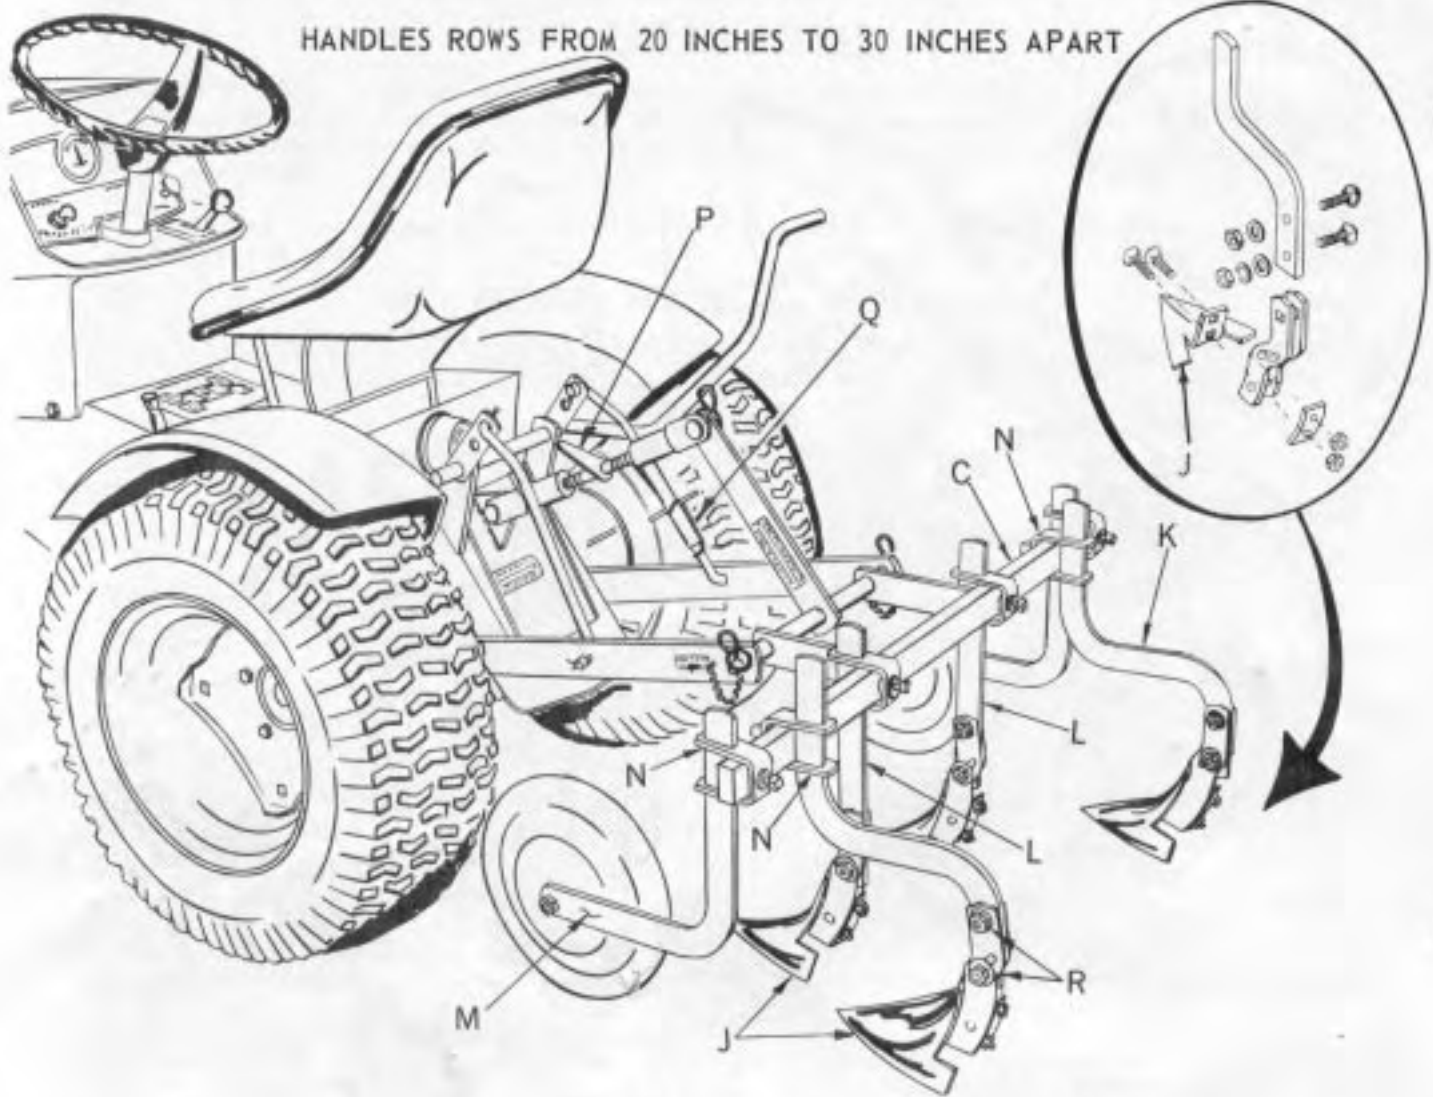
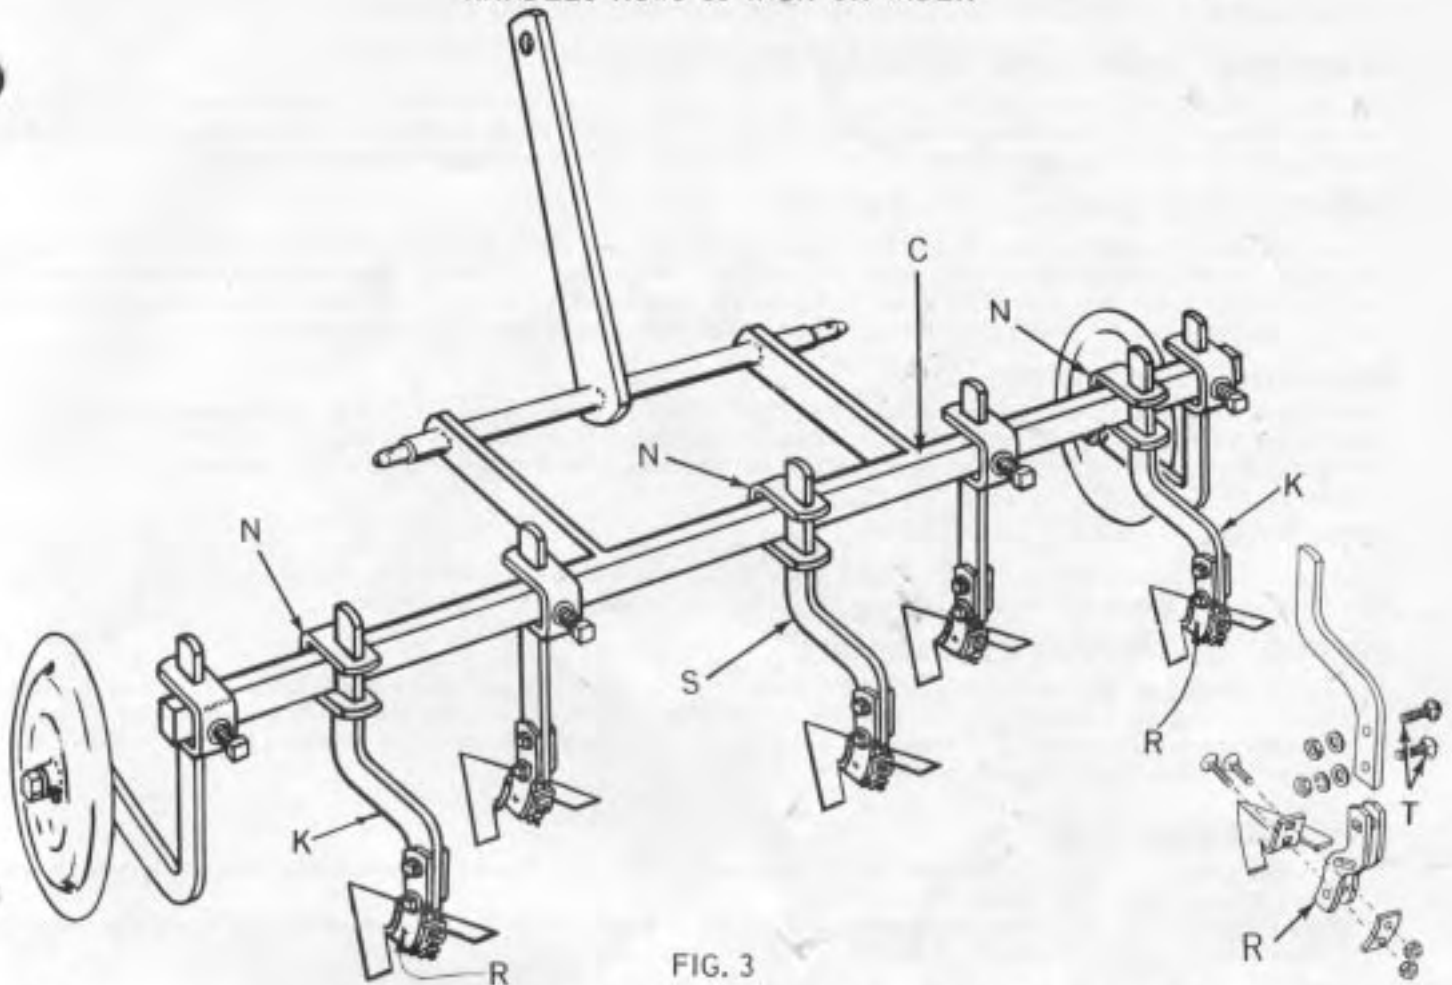

FIG. 2
FIG. 3
1. Slip L.H. hitch bar and bushing (A), over L.H. pin (B), of Cultivator frame (C), as shown. Secure with retainer spring (D).
2. Slip R.H. hitch bar and bushing (E), over R.H. pin (F), of Cultivator frame (C). Secure with retainer spring (D).
3. Assemble clevis (G), to upper hitch bar (H). Secure with clevis pin and retainer spring (D).
6. It is recommended that two settings be used to cultivate your land after planting. Straddle Row Cultivating (Fig. 2), will clean out the weeds next to your plants. Between Row Cultivating (Fig. 3), will clean out the weeds in the center of the rows. It is possible that you will want to Cultivate twice with the Straddle Row setting before changing your Cultivator to the Between Row setting.
1. Assemble sweeps or shovels (J), to shank assemblies (K and L), as shown in inset above. Use bolts, washer plates and hex nuts shipped in plastic bag. Tighten nuts securely.
2. Lift three point hitch to transport (raised position). Assemble L.H. gauge wheel and shank assembly (M), to L.H. end of Cultivator frame (C), with shank clamp (N), and set screw. NOTE: Generally gauge wheel and shank assembly will be positioned approximately 1 inch in from end of frame. Adjust so that shank will extend approximately  $1\frac{1}{2}$  to 2 inches above shank clamp. Shank clamp and set screw found in plastic bag. Tighten set screw securely.
3. Assemble R.H. gauge wheel and shank assembly (O), to R.H. end of Cultivator in same manner as L.H. gauge wheel and shank assembly.
4. Place a 1 inch block under each gauge wheel and lower Cultivator. Assemble offset shanks (K), with sweeps or shovels attached to Cultivator frame (C). Secure with shank clamps (N), and set screws. Exact position of shank assemblies will vary with width of rows or plants to be cultivated. Level Cultivator frame from side to side and front to back as follows: There are turnbuckles on the linkage of the three point hitch for leveling the Cultivator. The turnbuckle (Q), on the R.H. lift link, is used for leveling the Cultivator from side to side. Adjust R.H. lift link so that the points of the sweeps or shovels touch level surface at the same time. Rotate turnbuckle from left to right to lengthen linkage. Sweeps or shovels must have about a  $\frac{3}{8}$  inch pitch or suck and all points must touch level surface at same time. Pitch or suck refers to the dimension shown in inset of Fig. 2. Pitch or suck adjustment can be made in the following manner: Loosen the two nuts (R), on each shank. Move sweep or shovel forward or backward to obtain the proper pitch or suck. Retighten all nuts securely. Position shanks on Cultivator frame as desired. Tighten set screws in shank clamps (N), securely.
5. Position straight shank assemblies (L), to Cultivator frame (C), as shown. Adjust for pitch or suck as outlined above. Tighten set screws securely.
Only early, frequent and persistent cultivation will kill most weeds. For destroying most of these weeds, we suggest the Cultivator setting as shown in Fig. 3. In regions of low average rainfall it not only kills weeds quickly, but leaves a roughened surface that holds snow, absorbs moisture, and effectively retards evaporation. Under most conditions, even though the surface soil may be quite dry and pulverized, the sweeps or shovels dig deep enough to bring clods of dirt to the surface. The valuable loose top soil sifts down below the clods where there is much less possibility of its being carried away by wind or water. This means of cultivation will do a job similar to a spring harrow and is very effective in preparing seedbeds. The lifting action of the sweeps or shovels is particularly beneficial in a late, cold spring, breaking clods and stirring the soil after discing, so that air can circulate throughout the seedbed.
There are turnbuckles on the linkage of the Three Point Hitch for leveling the Cultivator. The turnbuckle (Q, Fig. 2, page 3), on the R.H. lift link, is used for leveling the Cultivator from side to side. Adjust R.H. lift link so that the points of the sweeps or shovels touch level surface at the same time. Rotate turnbuckle from left to right to lengthen linkage.
When Cultivating, adjust the top link (P, Fig. 2, page 3), so that the frame of the Cultivator is parallel with the ground from front to rear. Rotate turnbuckle to the right (clockwise), to lengthen the top linkage.
Sweeps or shovels must have about a 3/8 inch pitch or suck. Pitch or suck refers to the dimension shown in inset of Fig. 2. Pitch or suck adjustment can be made in the following manner: Loosen the two nuts (key number 22, page 6), on each shank side assembly (key number 15, page 6). Move sweep or shovel forward or backward to obtain the proper pitch or suck. Retighten nuts securely.